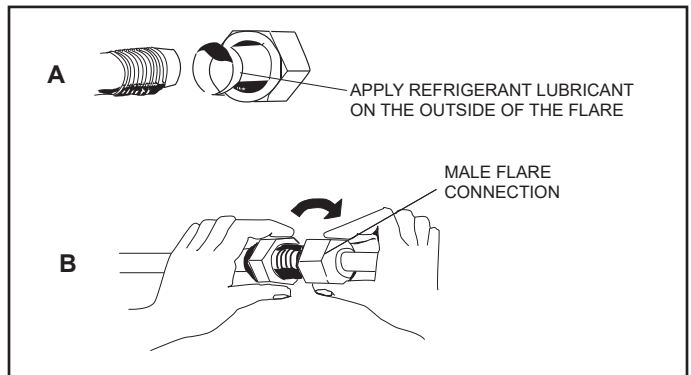

Figure 3. Making Connections (Male to Female Connection)
7. Access is required during the commissioning process to test the condensate disposal system (See Figure 9), to check the electronic expansion valve and associated flare nuts (See Figure 3), and to check the local disconnect. Ceiling framing should not restrict access.
5. Apply recommended HFC-410A refrigerant lubricant to the outside of the flared refrigerant lines (Figure 3-A).
6. Align the threaded connections with the flared refrigerant lines. Tighten the flare nuts lightly at first to obtain a smooth match (Figure 3-B).